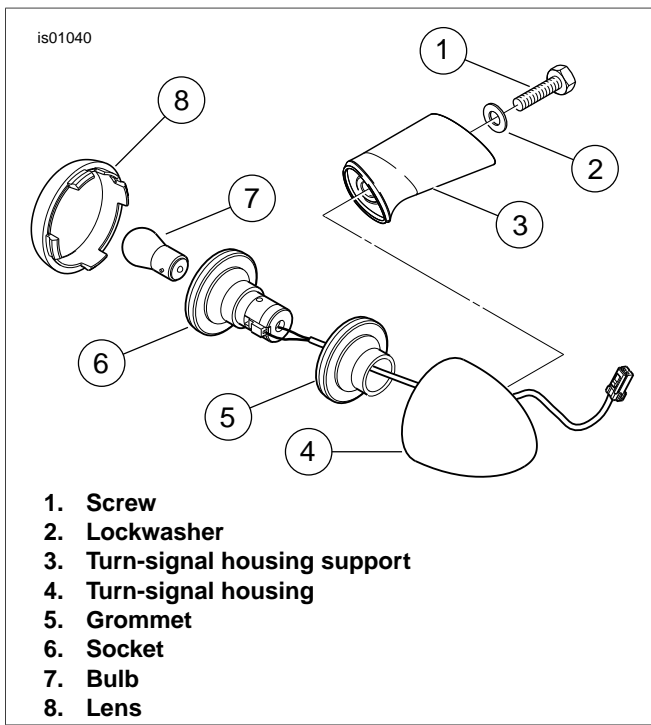
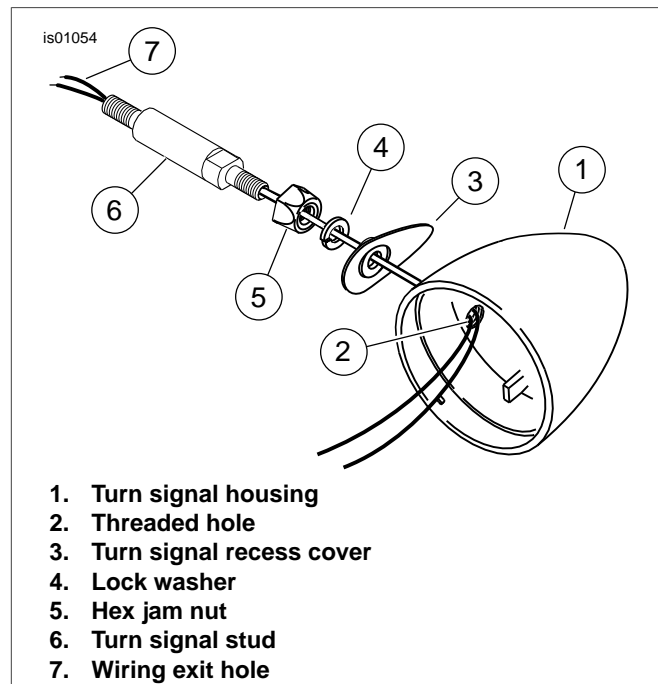
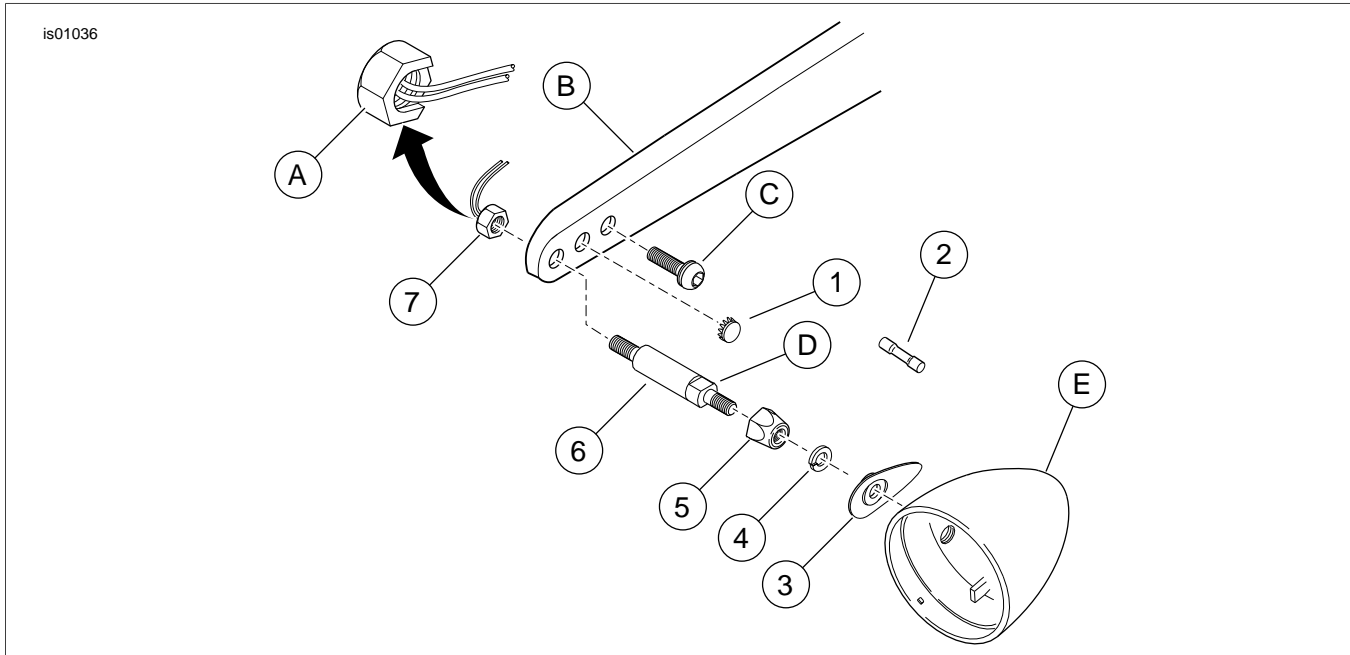

Figure 2. Stock Turn-Signal Removal
Figure 3. Rear Turn Signal Assembly To Stud
Figure 6. Service Parts: Directional Relocation Kit
See Figure 6 and Table 1.
10. See Figure 2. Remove the lens and bulb from each rear turn-signal housing.
17. For each turn signal, thread the wires from the turn-signal socket through the grommet, as shown in Figure 2, and turn-signal assembly, as shown in Figure 6. Route the wires starting through the threaded hole inside the turn-signal housing.
18. See Figure 3 and Figure 6. Route the wires for each turn-signal assembly through the rearmost hole in the fender-support bracket, then through the special nut (7) and to the inside of the fender. Allow about 6 inches (150 mm)
- a. See Figure 3. Insert the wires from the turn signal housing through the wiring exit hole (7), and
- b. (see Figure 3) through the threaded hole (2) in the housing (1) from the inside.
- c. Position the recess cover (3) against the recess in the turn signal housing, with the wires coming through the hole.
- d. Insert the wires into the end of the turn signal bar (6), and out the wire hole a short distance from the end of the bar.
22. Thread each stud into the special nuts, taking care to maintain the position of the notch in the note described above. Torque each stud (6) to 18-22 ft-lbs (24-30 Nm).
24. See Figure 6. Loosely fasten the jam nuts (5) and washers (4) onto the studs (6).
26. Align the rear turn-signal housing so the lens, when installed, faces rearward for proper visibility. Torque the jam nut (5) against the housing to 96-120 in-lbs (11-13 Nm).
29. Fasten a chrome hole plug (1) into the remaining hole in the fender support.